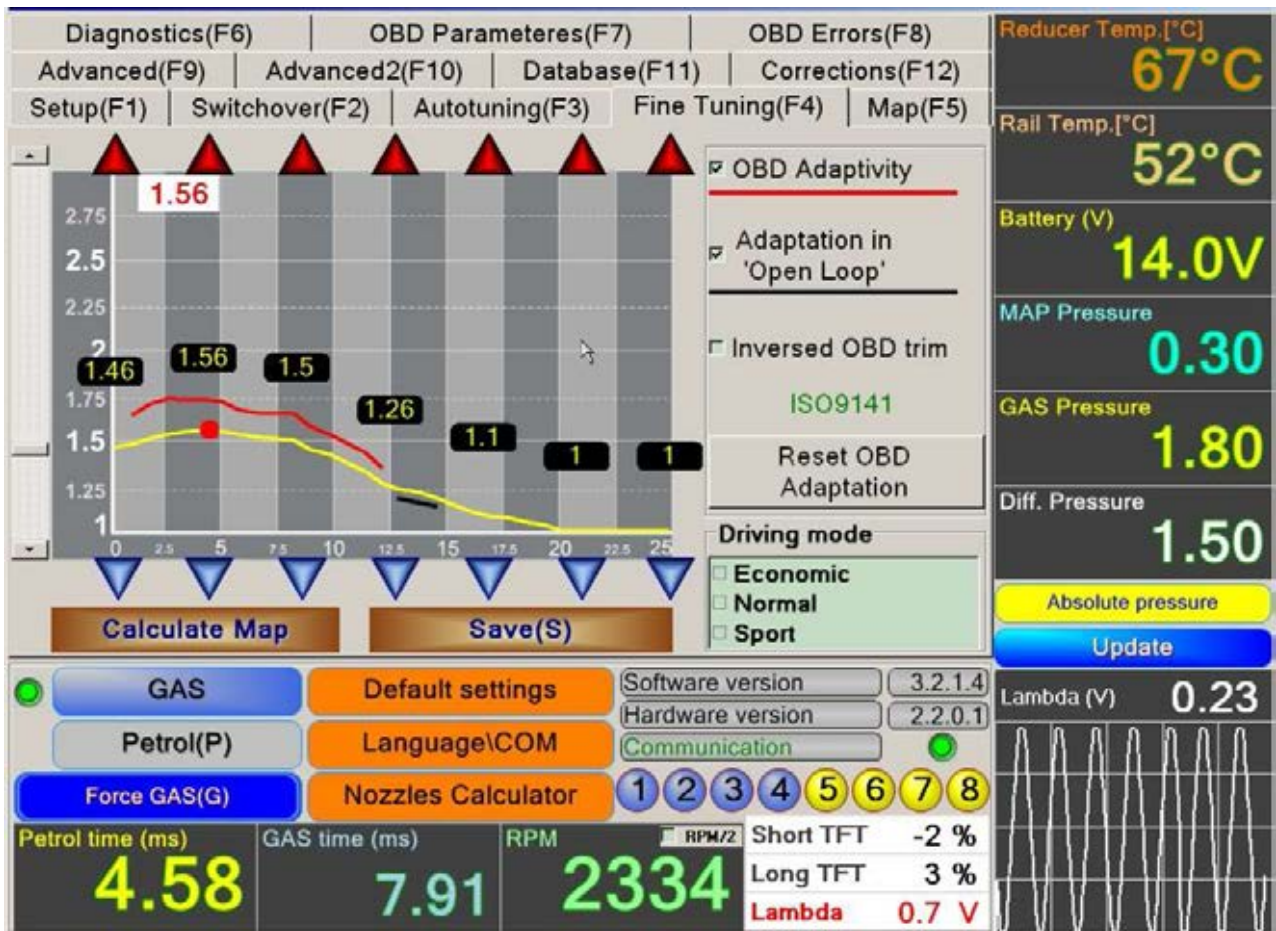
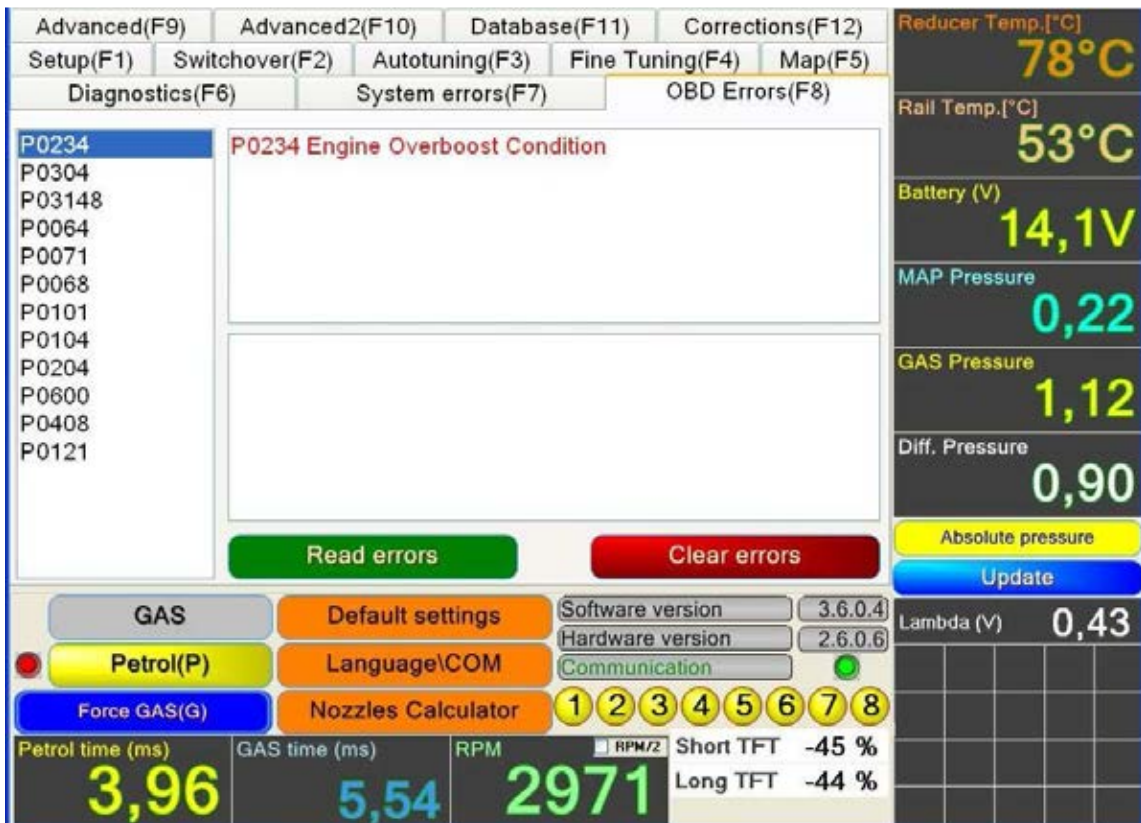

FIG.7
FIG.14
11. MENU "FINE TUNING" – (F4) – FIG.7
The real sign for improper sequence of the cylinder arrangement you can find when switch-over LPG/Petrol or vice versa in case the petrol injector times in "Petrol" mode and in LPG mode are equal. You can adjust this equality by using the arrows near in the "FINE TUNING" (FIG.7) menu, waiting near 10 seconds and switching over a few times Petrol/LPG. If after this procedure the engine is still shaking for a second when switchover the fuels you must check the sequence of the LPG injectors. Rarely the mistake could be from the hoses row to intake manifold, it is easy to correct by rearranging the connectors on the LPG rail.
From left to chart is added slider, which is carried out by moving the entire schedule all coefficients vertically. Activate slider by double click on the chart. (Fig.7)
From the "FINE TUNING" (FIG.7) menu use the checkbox labeled "Normal". On the screen you see coefficients; the working in each moment is colored in RED point. Ensure permanent load, RPM and throttle position (gas pedal) switch-over from "Petrol" to "LPG" and if the petrol injector times are changing, correct the colored in blue coefficient simultaneously with switching over. If the petrol time when turn over from "Petrol" to "LPG" is increased you have to increase the coefficient and vice versa till you reach the equality of these petrol times. It is recommended to use this procedure for more load conditions of the engine (at least 6-10). If you didn't manage to cover all driving modes using the arrows adjust all uncalculated coefficients near to the calculated ones. Looking over the curve, you'll try to make this curve smoother.
12. SELFADAPTIVITY IN F4 MENU /FIG.7/ ONLY FOR OBD SYSTEM
When the installation of the wires, used for OBD/CAN connection to the back wires of the car's 16-pin diagnostic connector is correct, you will see on the right side of the screen FIG.7 next to the chart: **OBD adaptivity, 'Adaptivity in Open loop', Reset OBD adaptation**". If you do not see them it means them it means that the wires are not properly connected. On the screen 'Fine tuning' you could choose by signing the check box **OBD adaptivity**, which allows you to adjust the gas system permanently on gas during all the driving time. The only thing you have to do in this case is to install the nozzles with proper size. After this the ECU will use factory set coefficients, modifying them all the time in all driving modes, storing them into the memory. After switching off and switching on again you could see with yellow line factory set coefficients (or the curve after manual adjustment or auto tuning). With red line you'll see the curve of the coefficients which gas ECU use, to keep the Short term fuel trimmer(STFT) close to 0%. Then you could readjust the yellow curve max. closed to the red one. This way if on some reason OBD connection is interrupted, the system will run properly adjusted. On the screen is also seen check box '**Adaptivity in Open loop**', which allow you to see what have to be coefficients when the petrol ECU stop to read the O2 sensor and run using internal tables with petrol times vs. RPM and other parameters. It usually happens over 4000 RPM and TPS more than 50%. If this check box is switched on and you drive in that mode, when close the software and open it again, it could be seen black curve, which give you information how you could adjust coefficients at high load.
This chapter will give more information about the OBD/ CAN communication modul and will direct to easy adjustment of the system. First of all you could see two screens in the menu “System Errors” (FIG.7) and “OBD Errors” (FIG.14) . The most important parameters from OBD are: “short” and “long term fuel trimmers”. For convenience you will see these parameters also on the proper place in all teh menus. Shortly you have to know, that you need to keep them near to 0%. If their values are very different from 0% at petrol, you need to readjust the coefficients in gas mode so, that the values of these both parameters have to be equal to them in petrol mode (for instance at petrol mode they are +18%, adjust the coefficients this way, they are near +18% in gas mode). Here is the place to mention what these two parameters mean. If they are permanently positive (+.%), it means the fuel mixture is too lean and the petrol ECU will try to encrease the injection times to compesate this. If their values most the time are negative, the mixture is rich. Most often these parameters are positive when the petrol injectors are dirty or negatjve when the car is run over 100 000 km or the air filter is dirty. Analizing these parameters you could find some problems in the gas system in whole. For instance after 30-60 thousand km meleage the gas injectors increase the flow rate, so the gas ECU make the fuel mixture rich and the “short and long fuel trimmer” became negative. In this case you have to readjust the coefficients properly.
The other mode in the menu is “OBD Errors” /FIG.14/. Using this menu, you could read, analize and clear all errors, established on the time of installing, adjusting and using the gas system any time.